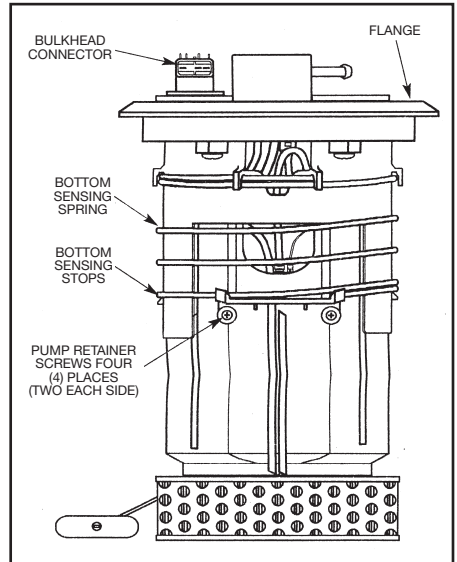

Fig. 1
1. Disconnect the fuel pump electrical plug from the bottom side of the bulkhead connector on the inside of the tank unit. Depress the lock release and slide the connector down off of the connector (See Fig. 1).
2. Disconnect fuel pump outlet hose on the bottom of the tank unit flange (See Fig. 1).
3. Compress the bottom sensing spring toward the top of the tank unit. This will allow room to remove the flange assembly. Carefully pry the two (2) flange slide tracks over the bottom sensing stops and slide the flange assembly off of the lower portion of the tank unit (See Fig. 1).
4. Remove the four (4) retainer screws from the lower portion of the tank unit (See Fig. 1).
13. Reconnect the electrical connector to the bulkhead connector on the bottom side of the flange (*See Fig. 1*).